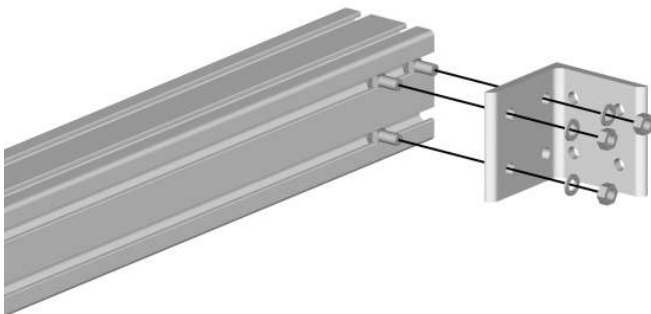

Figure 4-A
- Mount corner angle clip "4" to the ends of the mounted Rails "S" (see Figure 4-A) with 3 carriage bolts as shown.